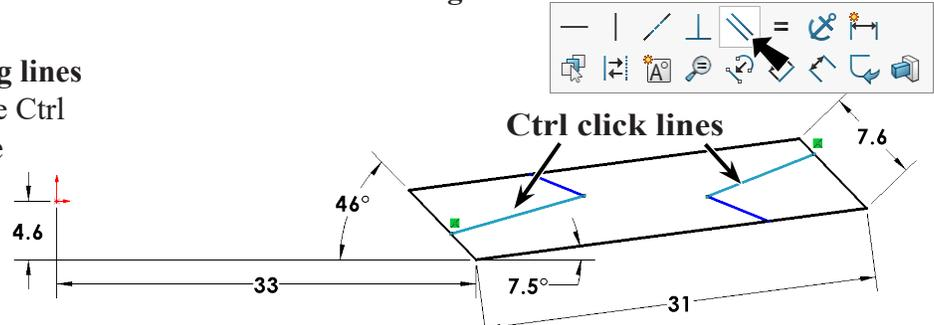

Fig. 77
Step 12. **Ctrl click both long lines** select both. Release Ctrl key and click **Make Parallel** on the context toolbar, **Fig. 77.**